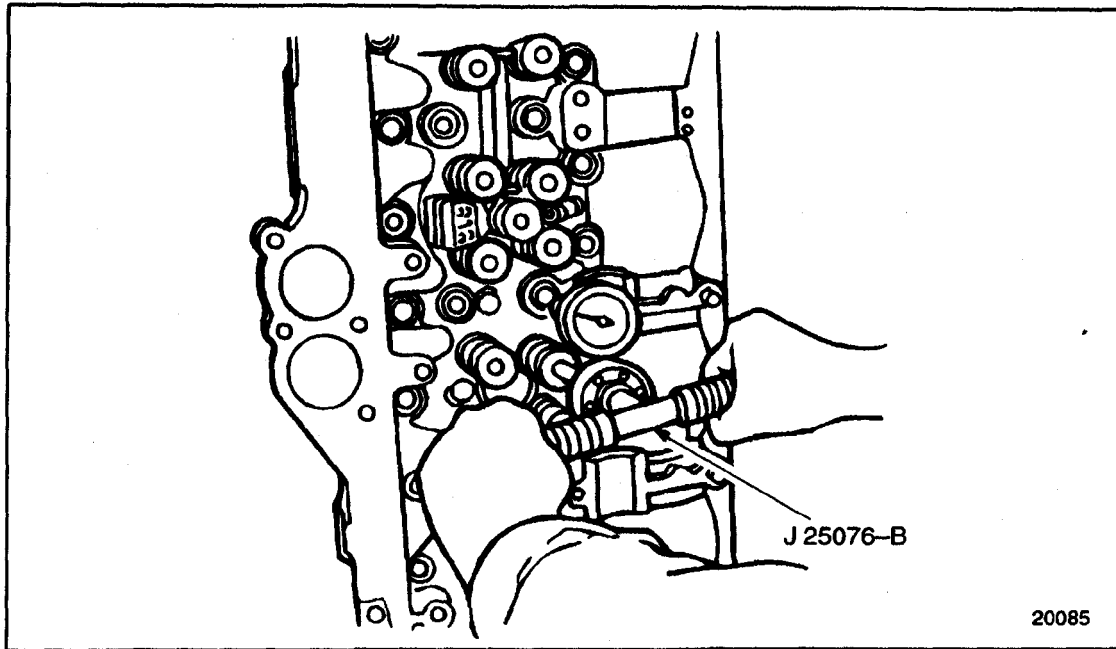

Figure 1-90 **Checking Valve Spring Load**
10. After all of the valves are installed, check the spring opening pressure on each valve using spring load gage. See Figure 1-90.